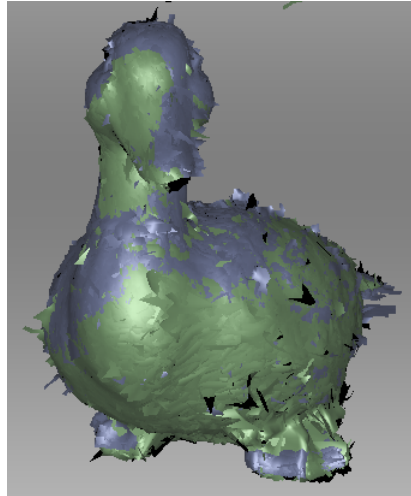

Figure 111: "Drag" alignment result
3. To confirm the alignment, release the mouse button(s) and the `Shift` key, then click *Apply*. Note carefully that any scans you are registering won't automatically move to the registered set  (see Figure 111). You can do so manually as the Changing Object Status describes.